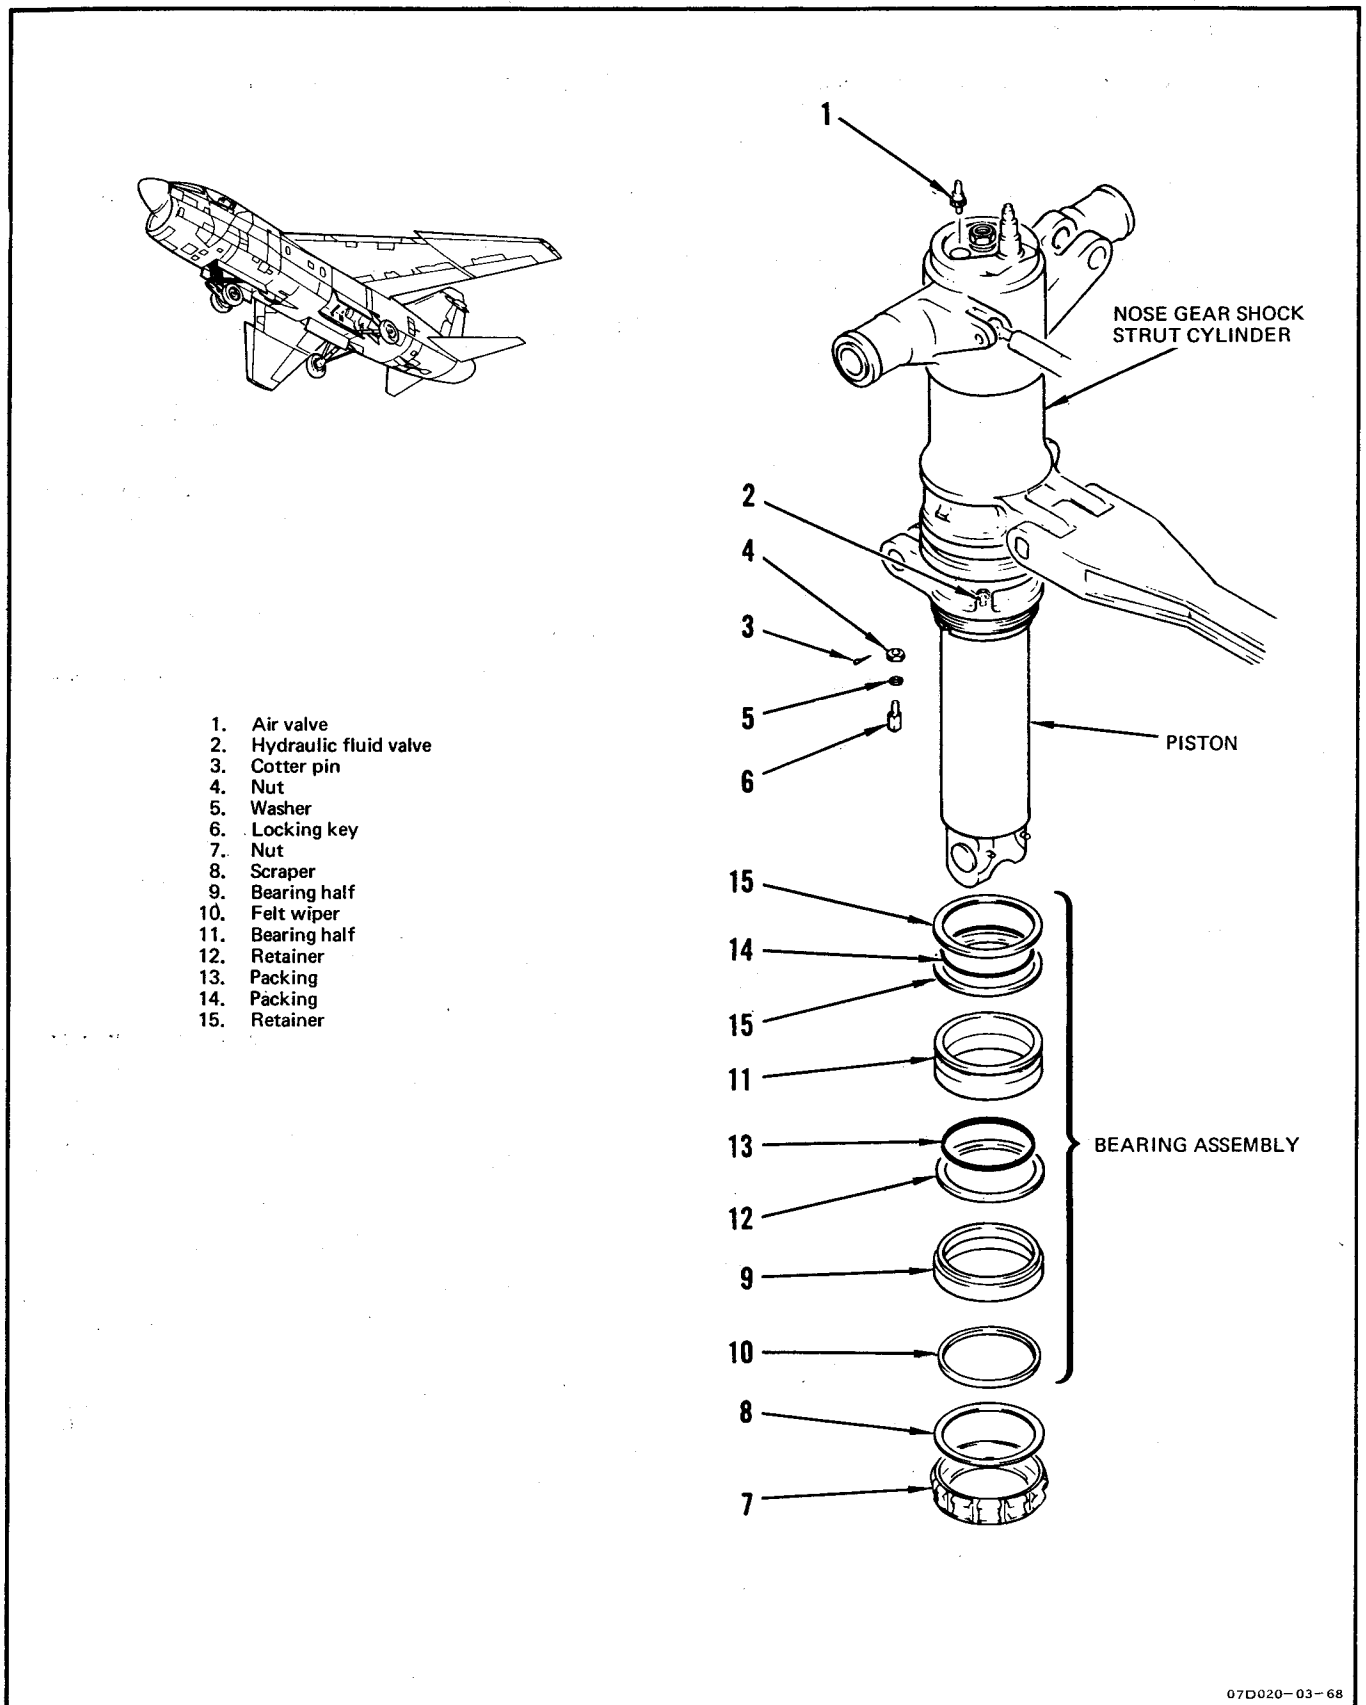

Figure 1-21. Nose Gear Shock Strut Seal Replacement
q. Coat bolt (11) with wet MIL-P-8585 zinc chromate primer. Position lower drag link (12) and secure to strut by installing bolt (11) and nut (10).
r. Install roller (8) on bolt and secure with washer (7), nut (6), and new cotter pin (5).
s. Coat bolt (3) with wet MIL-P-8585 zinc chromate primer. Insert actuator connecting linkage rod end into strut lug fitting and secure by installing two washers (4), bolt (3), and nut (2). Tighten nut and install new cotter pin (1).
**1-74. NOSE GEAR SHOCK STRUT SEAL REPLACEMENT.** (See figure 1-21.)